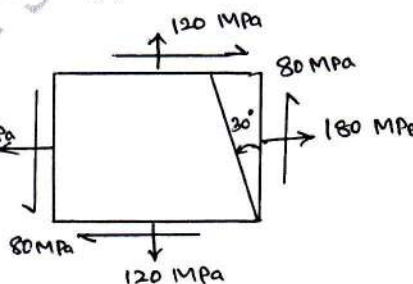

Fig.Q3(b)
- An element is subjected to stress system as shown in Fig.Q3(b). Determine (i) Normal and tangential stress on the oblique plane. (ii) Resultant stress (iii) Angle of obliquity (iv) Principal stresses and their planes (v) Maximum shear stress and its planes.